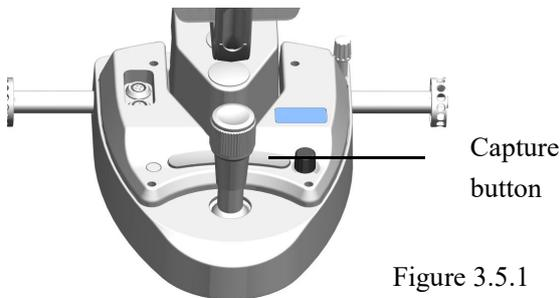

Figure 3.5.1
- Capture button (see Figure 3.5.1), press the capture button in the camera mode to take a photo; press the capture button in the video mode to start recording, press the capture button in the recording state to end the current recording.